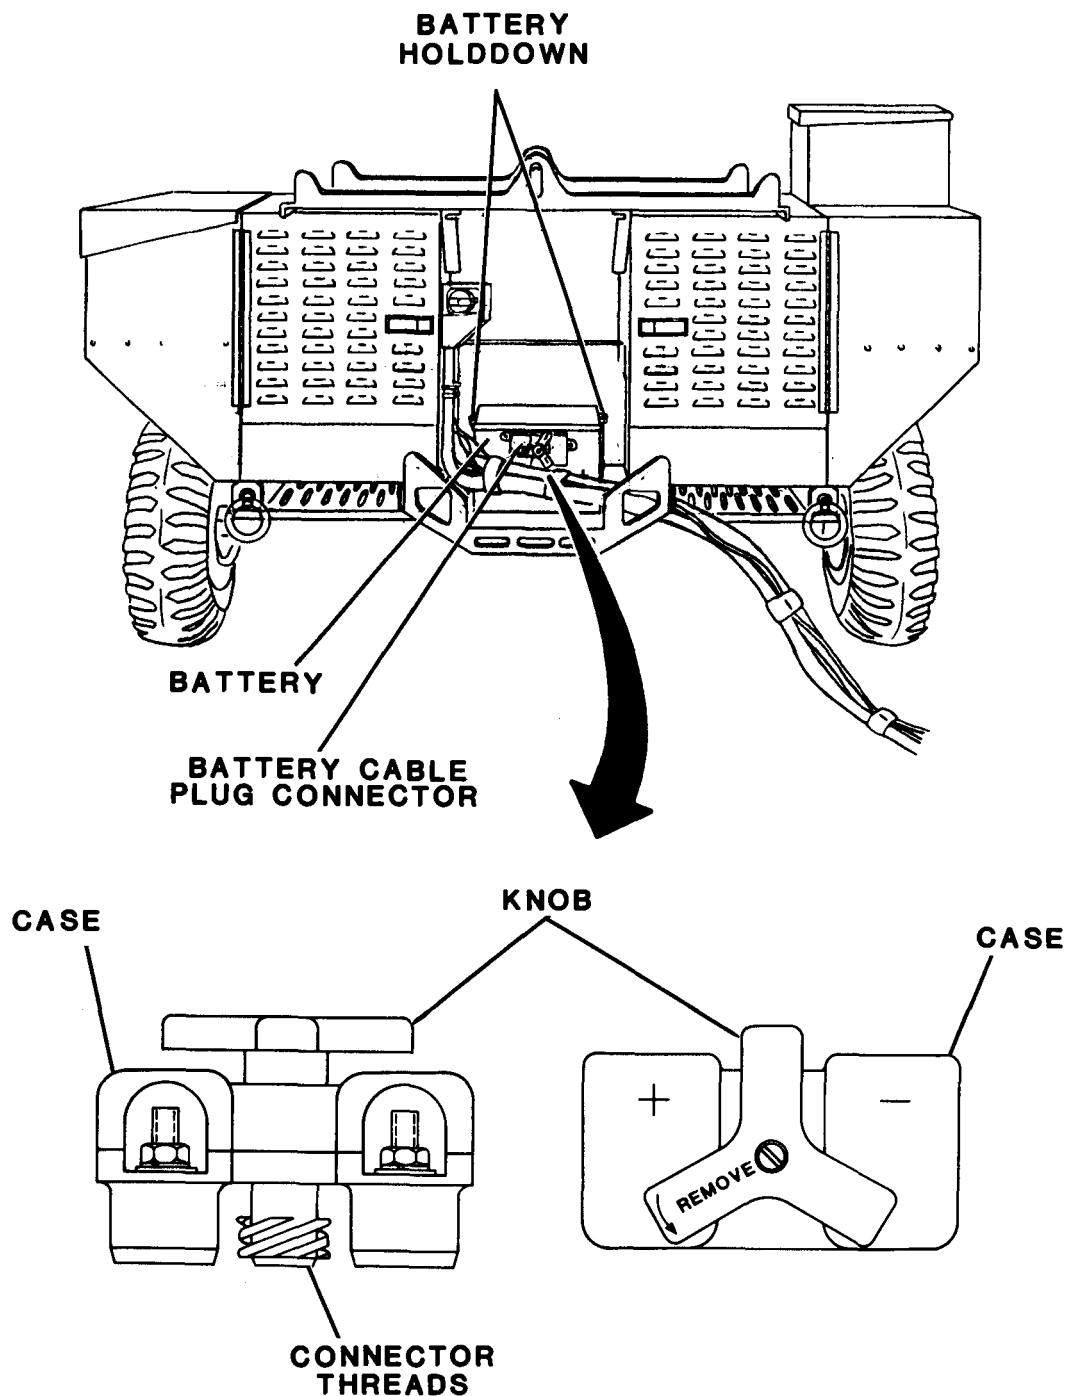

Figure 3-6. Battery and Battery Cable Inspection
a. Battery Cable Assembly. See figure 3-6.
(1) Visually inspect length of battery cable for cracks, abrasions and cuts.
(2) Check battery cable connector for damaged knob, cracks in case, damaged threads, and loose connections.
(3) Ensure that female contacts are securely in place and undamaged.